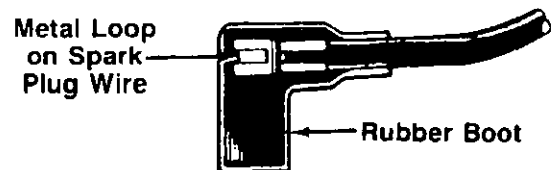

FIGURE 16.
2. Attach spark plug wire to spark plug. Make certain the metal loop on the end of the spark plug wire (inside the rubber boot) is fastened securely over the metal tip on the spark plug. See figure 16.